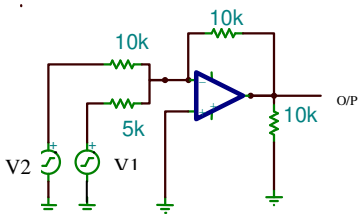

Fig. 4c Adder circuit (two ac signal)
4. Make the circuit as in Fig 4c. Give two equal ac signals (derived from same function generator) of 10mV peak, 10KHz. record the output signal amplitude and phase.